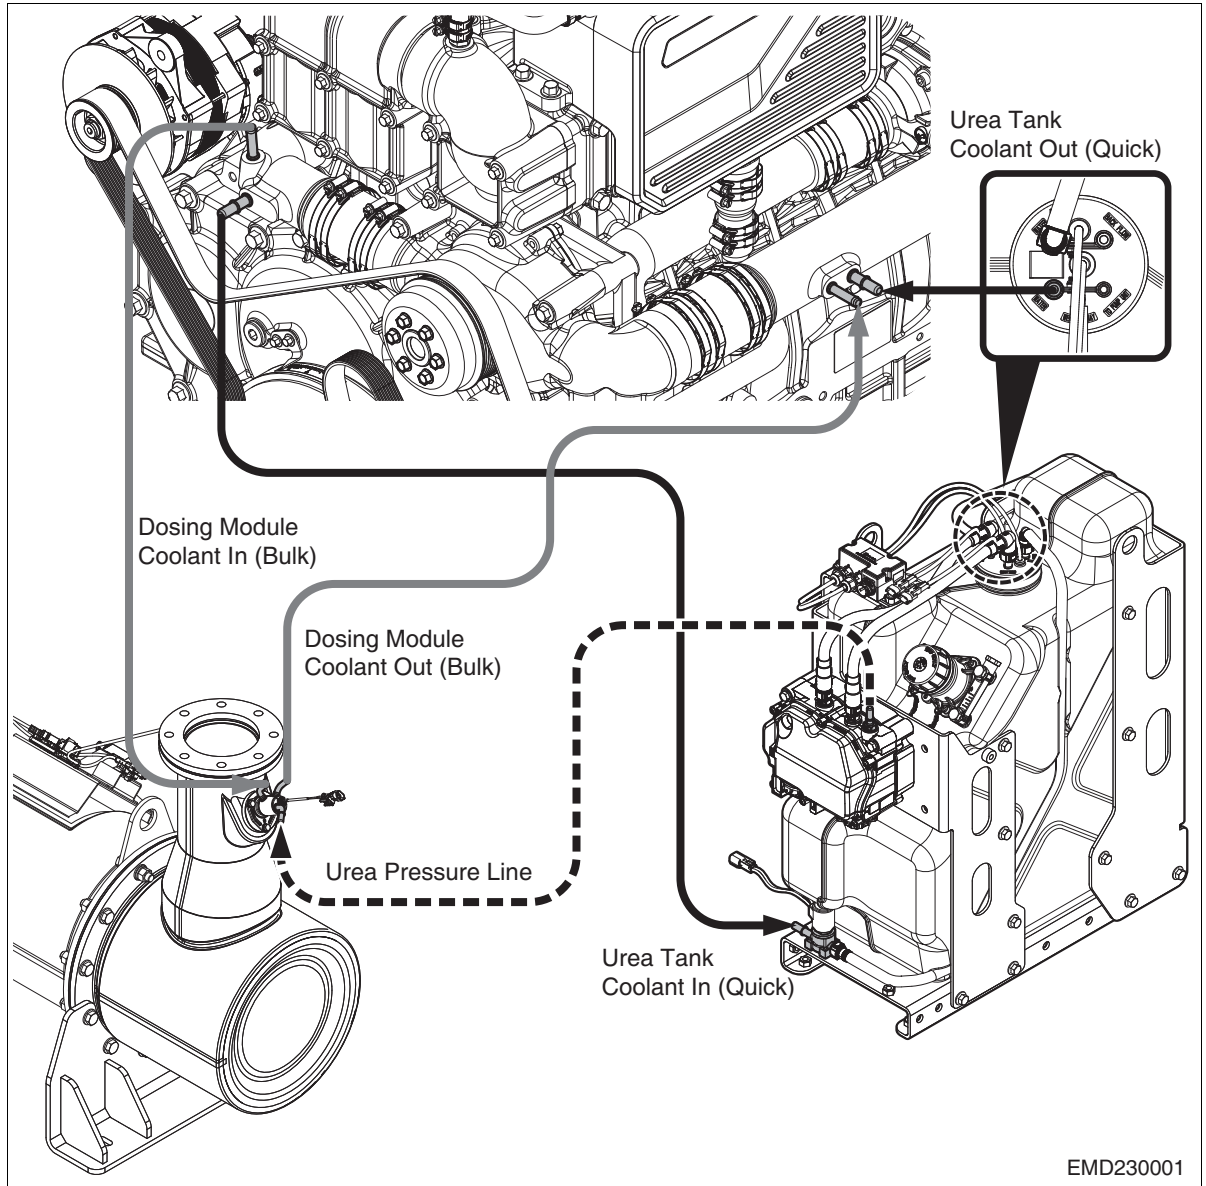

Fig. 11 Urea Tank heating & Dosing Module cooling Hose connection (DX12)
- Shown in Fig. 11~13 are the connections of the DX12, DL08, and DL06 engine coolants to the DEF tank and DEF injection module (dosing module).